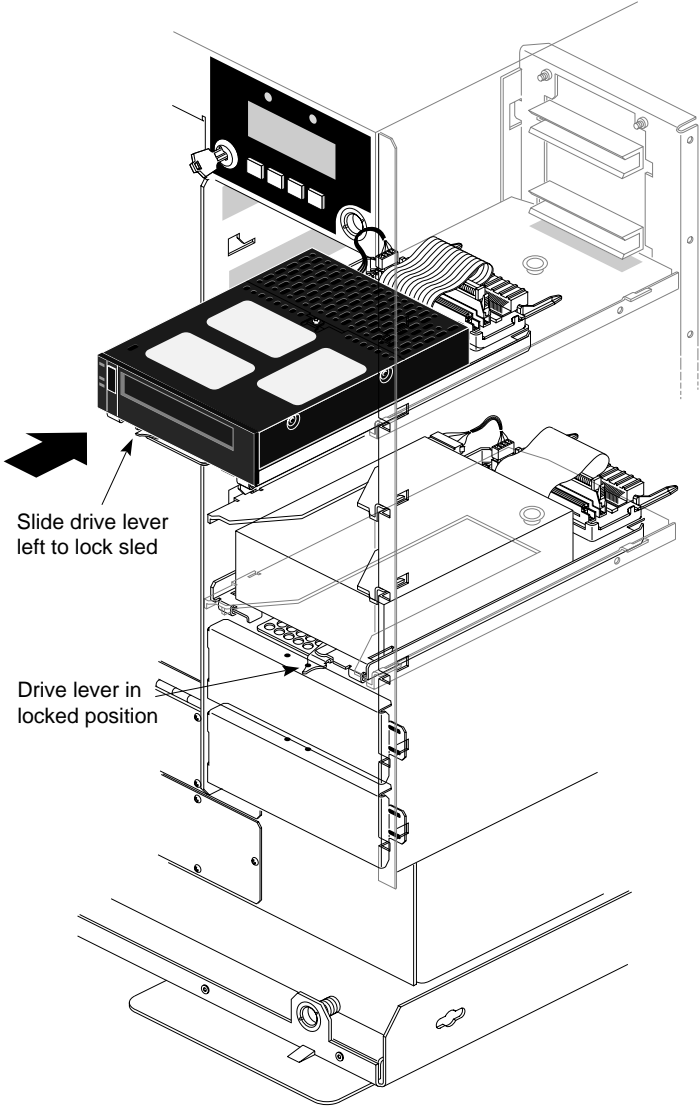

Figure 1-4 Installing the Tape Drive Into a Horizontal Drive Bay
1. Orient the FLD and sled assembly so that the connectors on the back are on the bottom half of the drive and face away from you (see Figure 1-4).